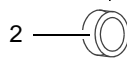

Fig2
- Loosen safety screw at the fixing bolts (Fig. 2/1) and remove together with bushings (Fig. 2/2)